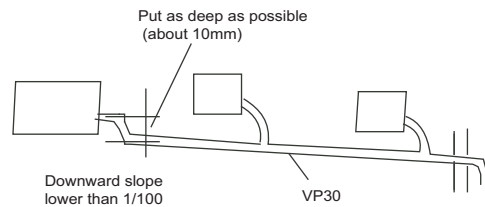

Fig. 18 — Using a Main Drain to Serve Multiple Indoor Units with Internal Condensate Pumps
- Condensate piping should slope downward in the direction of condensate flow with a minimum gradient of 1 in. per 100 inches (see Fig. 18).
NOTE: CN18 can be disconnected to stop the pump. The condensate switch is switch CNS, which can be used for gravity drain protection (see Fig. 18).